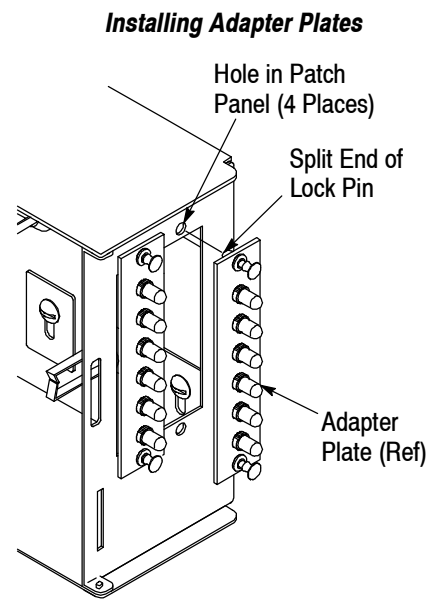

Figure 3
1. Position the adapter plate over the patch panel (opening in side of the enclosure) so that the split end of the lock pins align with the holes in the patch panel. See Figure 3.